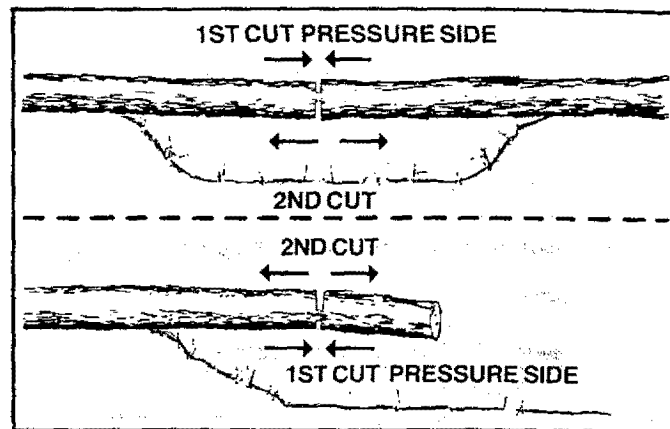

Figure 28
- Give special attention to logs under strain to prevent the saw from pinching. Make the first cut on the pressure side to relieve the stress on the log. Figure 28.